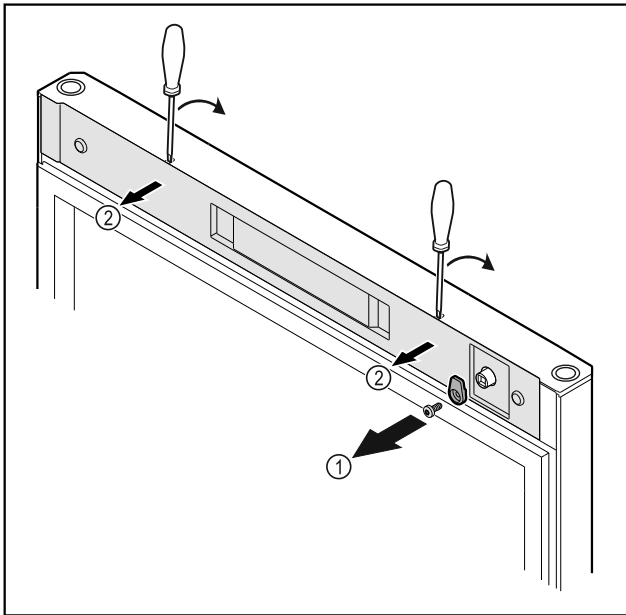

Fig. 11
- Unscrew the door latch Fig. 11 (1).
- Unlatch the cover Fig. 11 (2) with a small screwdriver and remove it.